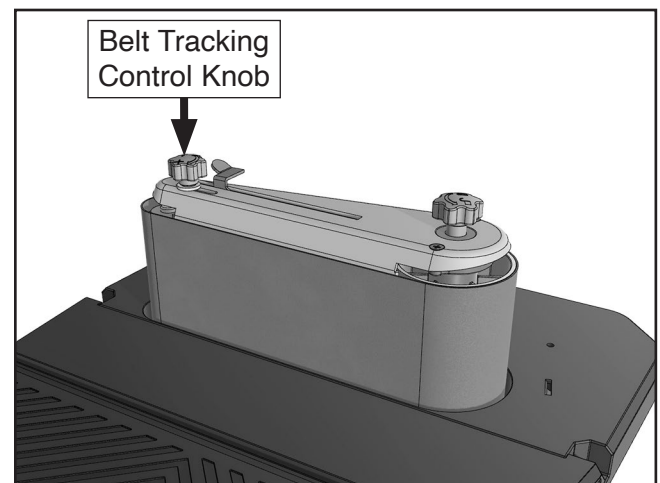

Figure 34. Location of belt tracking control knob.
- If sanding belt moves toward top of edge sanding attachment, rotate belt tracking control knob (see **Figure 34**) counter-clockwise $\frac{1}{4}$ -turn.
- If sanding belt moves toward bottom of edge sanding attachment, rotate belt tracking knob (see **Figure 34**) clockwise $\frac{1}{4}$ -turn.